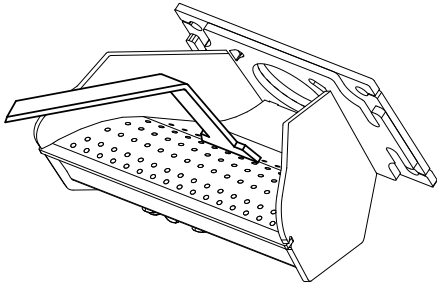

Fig. 32
1. Scrape the top holed surface and sides of the burn pot. (Fig. 32) It is not necessary to completely remove all material from the burn pot. The excess will be pushed out during the next use.